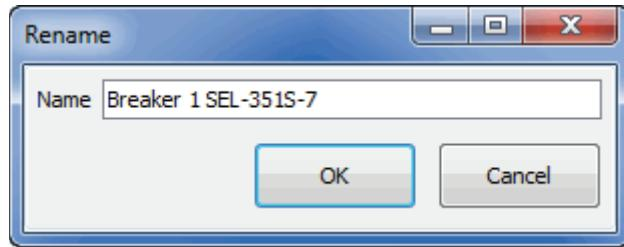

Figure 23 Rename Connection
- Step 10. Rename the **SEL-351S-7 Breaker 1 SEL-351S-7** as shown in *Figure 23*. Select **OK** to accept the name change.